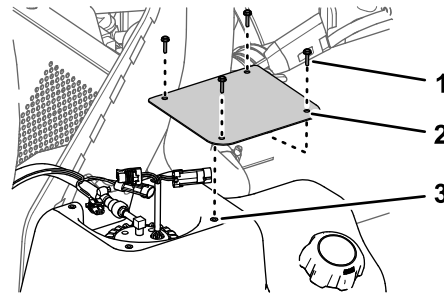

Figure 114
2. At the fuel tank, remove the 4 screws (#10 x 3/4 inch) that secure the cover to the top of the fuel tank, and remove the cover (Figure 114).